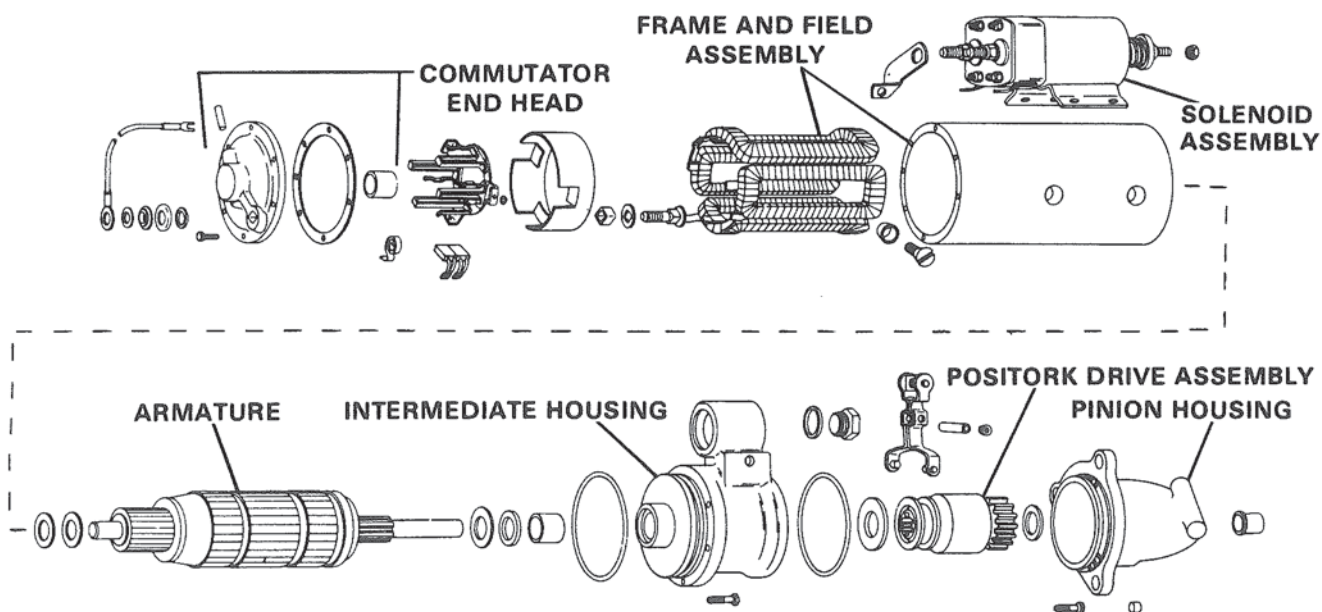

Figure 4. Major Starter Components.
Seven (7) major components of the starter are as follows. Figure 4.